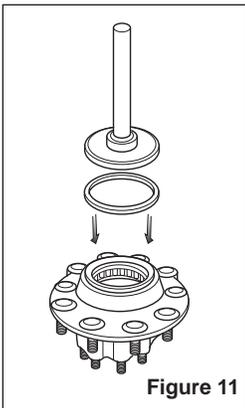

Figure 11
4. Using ConMet ring installation tool (part number 107119) center the tool over the ABS ring. Each type of ring fits a corresponding diameter on the tool (see figure 11).